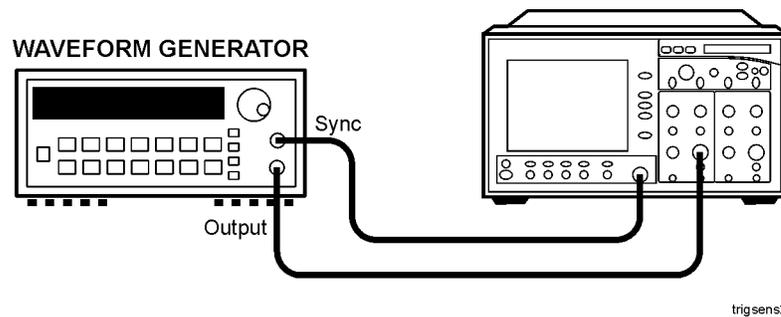

Figure 2-9. Time Interval Accuracy Setup from 20 ns/div to 20 μ s/div
- 22 Connect the equipment as shown in Figure 2-9.